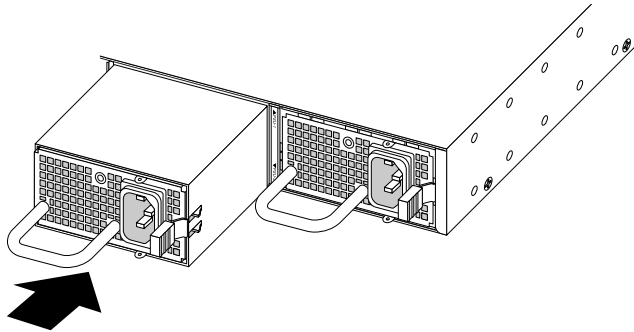

Figure 294: Installing a Power Supply
3. Verify that the power supply is right side up, with the latching tab at the right of the unit (see Figure 294 on page 357).
4. Carefully slide the power supply all the way into the power supply bay (see Figure 294).